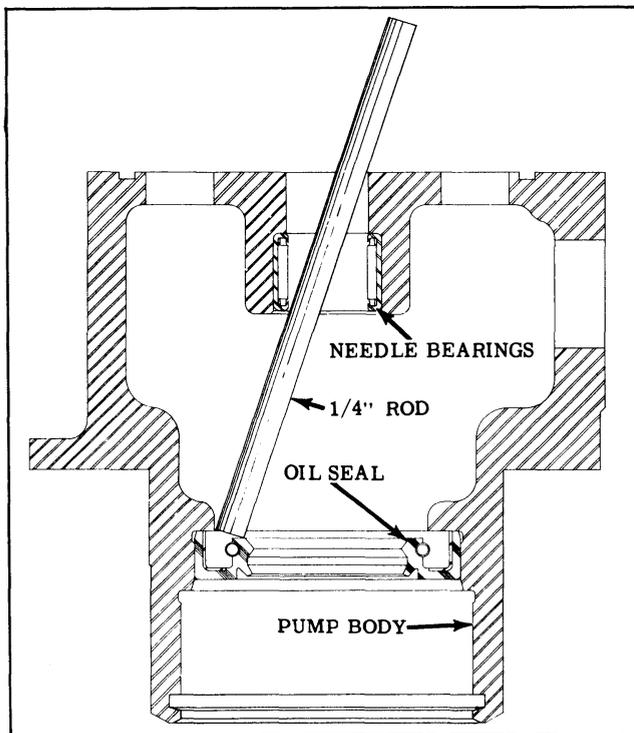

Fig. 5-77 Seal Removal
11. Remove seal from pump body as shown in Fig. 5-77.